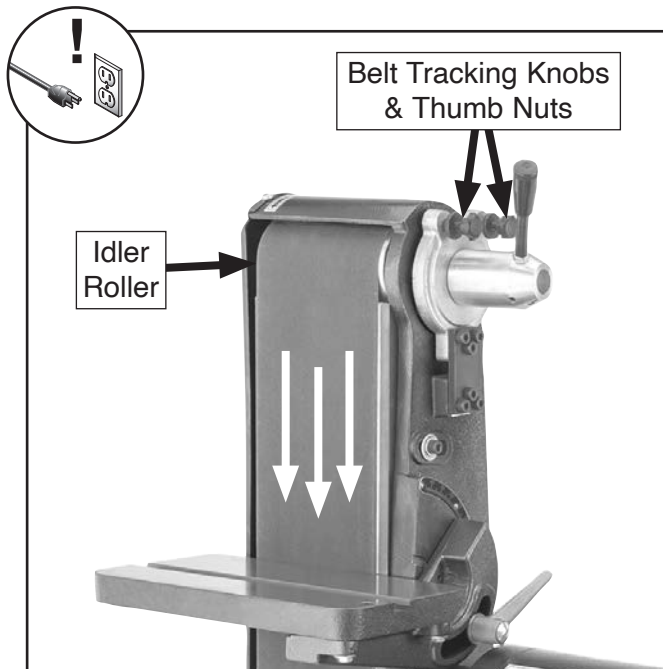

Figure 40. Belt tracking components.
2. Standing in front of machine, push sanding belt multiple times along platen so it moves in direction of operation (see **Figure 40**), then watch how belt tracks on rollers.
3. Loosen (2) thumb nuts, then use (2) belt tracking knobs (see **Figure 40**) to adjust belt tracking while continuing to rotate belt by hand to check adjustment.